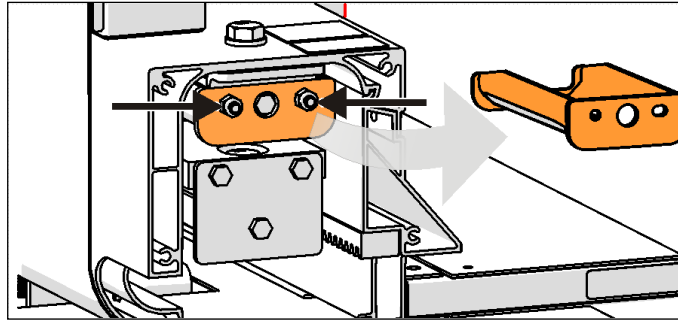

FIGURE 5 EXTENSION STOPPER REMOVAL
- Remove the two nuts holding the extension stopper (perform on both sides). (Figure 5)